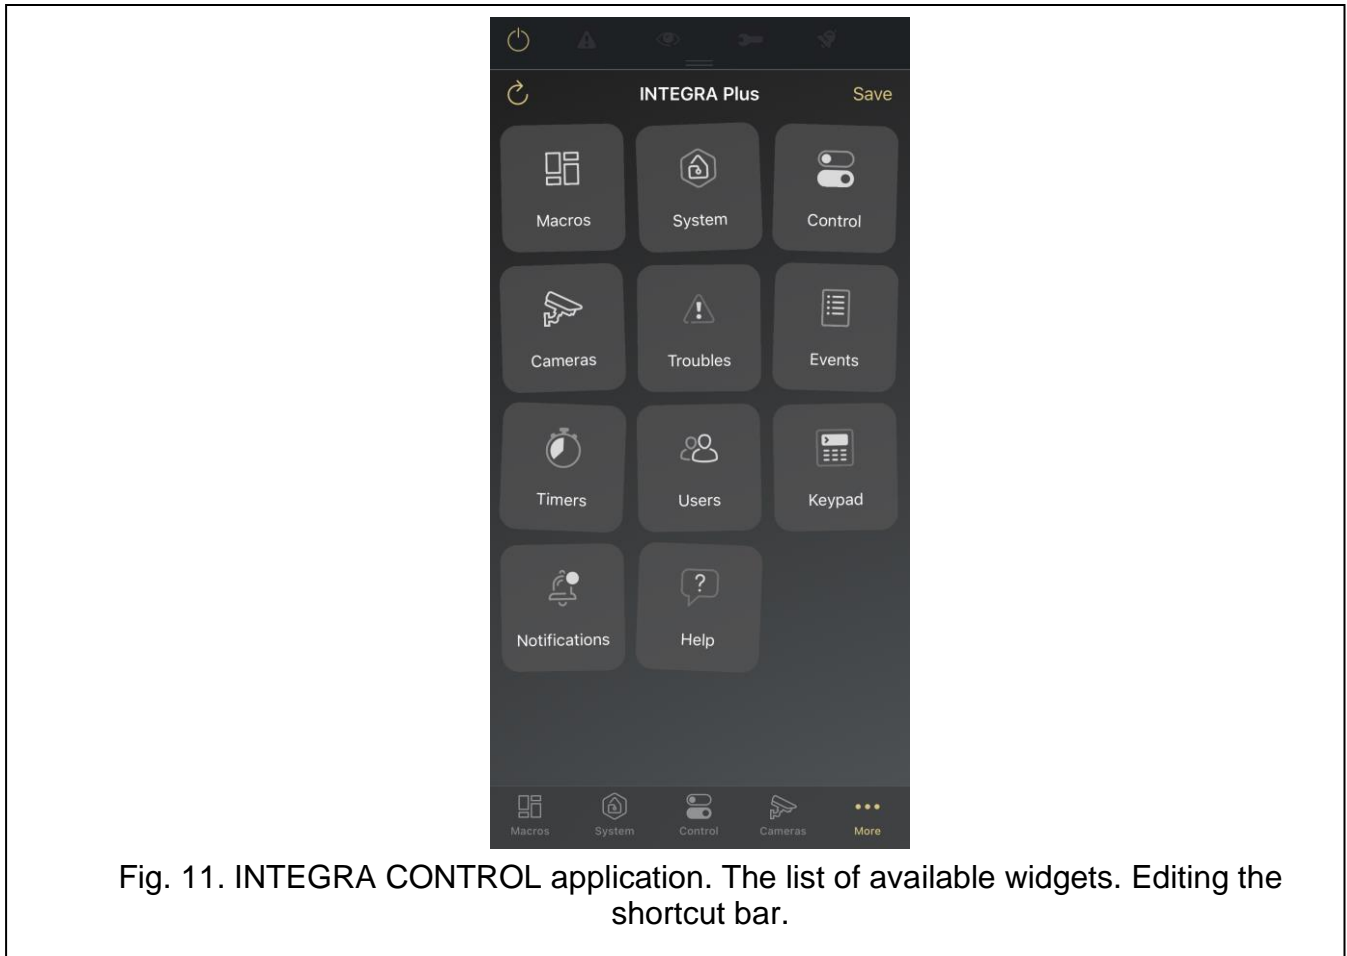

Fig. 11. INTEGRA CONTROL application. The list of available widgets. Editing the shortcut bar.
Click “More” to view the widgets (Fig. 11):
1. Tap and hold one of the widgets. The list of widgets will change its appearance (Fig. 11).